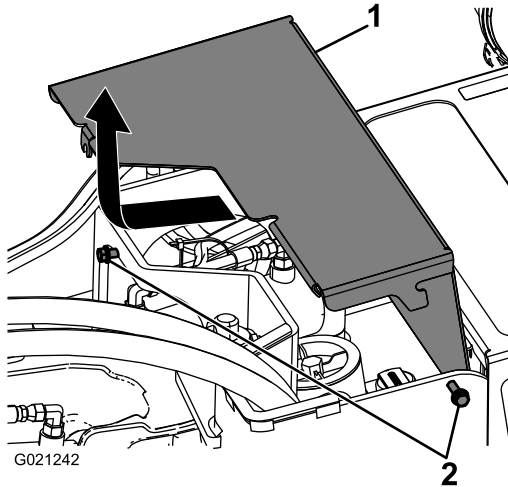

Figure 24
- Loosen the 2 screws securing the front cover to the machine (Figure 24).
- Slide the cover forward slightly and pull up to remove the cover (Figure 24).
- Slide the front cover into place and tighten the 2 screws securing it to the machine (Figure 24).